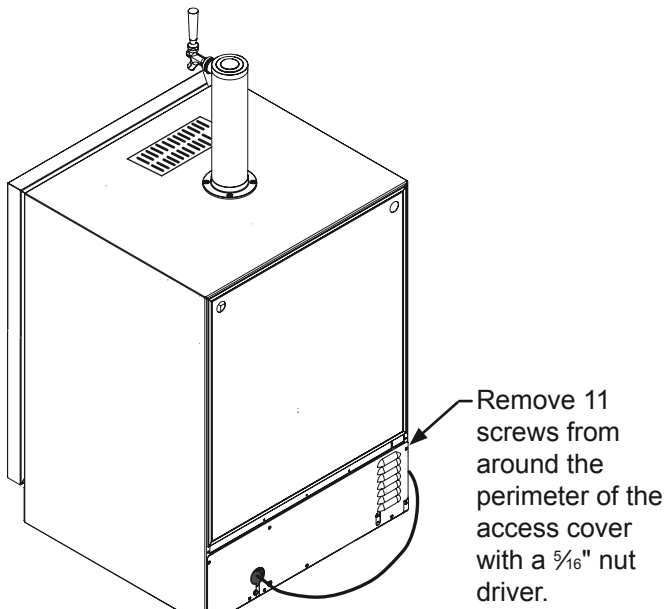

Figure 38
14. Remove the rear access cover, (see Figure 38), and use a brush and vacuum to clean dirt and debris from the machine compartment.